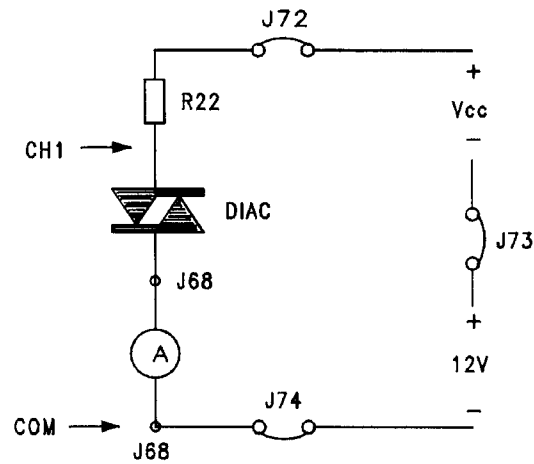

fig.B12.12
- Connect jumpers J73, J72, J74, the ammeter across J68, the oscilloscope across the DIAC (to measure the voltage) to produce the circuit of fig.B12.12